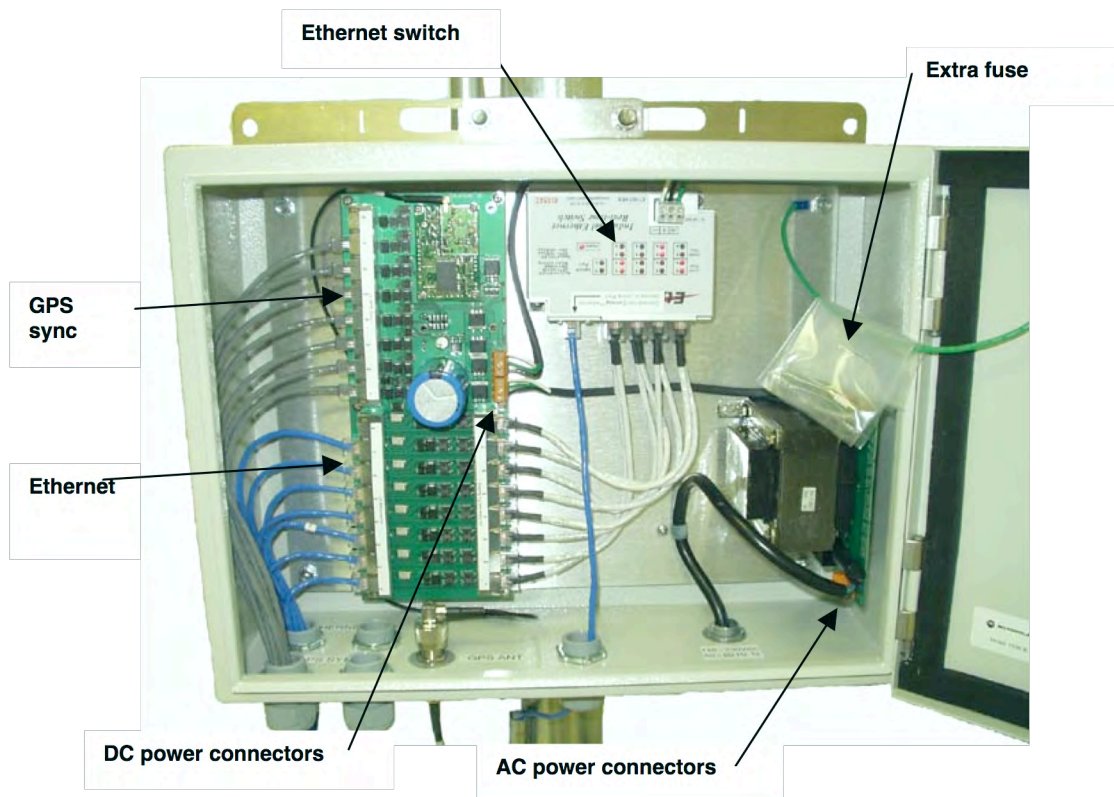

Figure 131: Canopy CMM2, front view
8. Connect the Ethernet cable from the first AP or BH to the **Port 1** in the J3 ports in the CMM2. This port is the *master* Ethernet port for the CMM2 and should be connected first in all cases. Figure 131 on Page 341 is a photograph of a properly wired CMM2.
11. Connect the GPS sync cable from the first AP or BH to the **Port 1** in the J1 ports in the CMM2. See Figure 131 on Page 341.